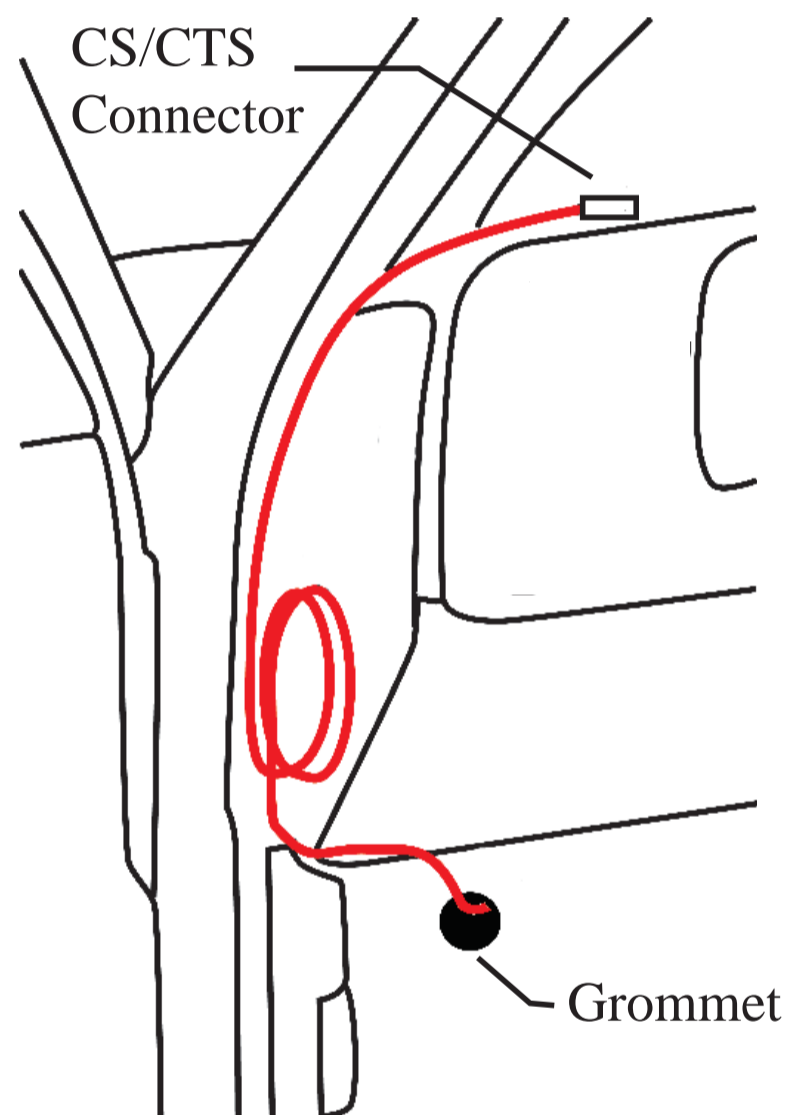

Figure 4 - In Cab Routing
4. Route the cable from below the dash up to the lower left corner of the driver side windshield. (Figure 4)